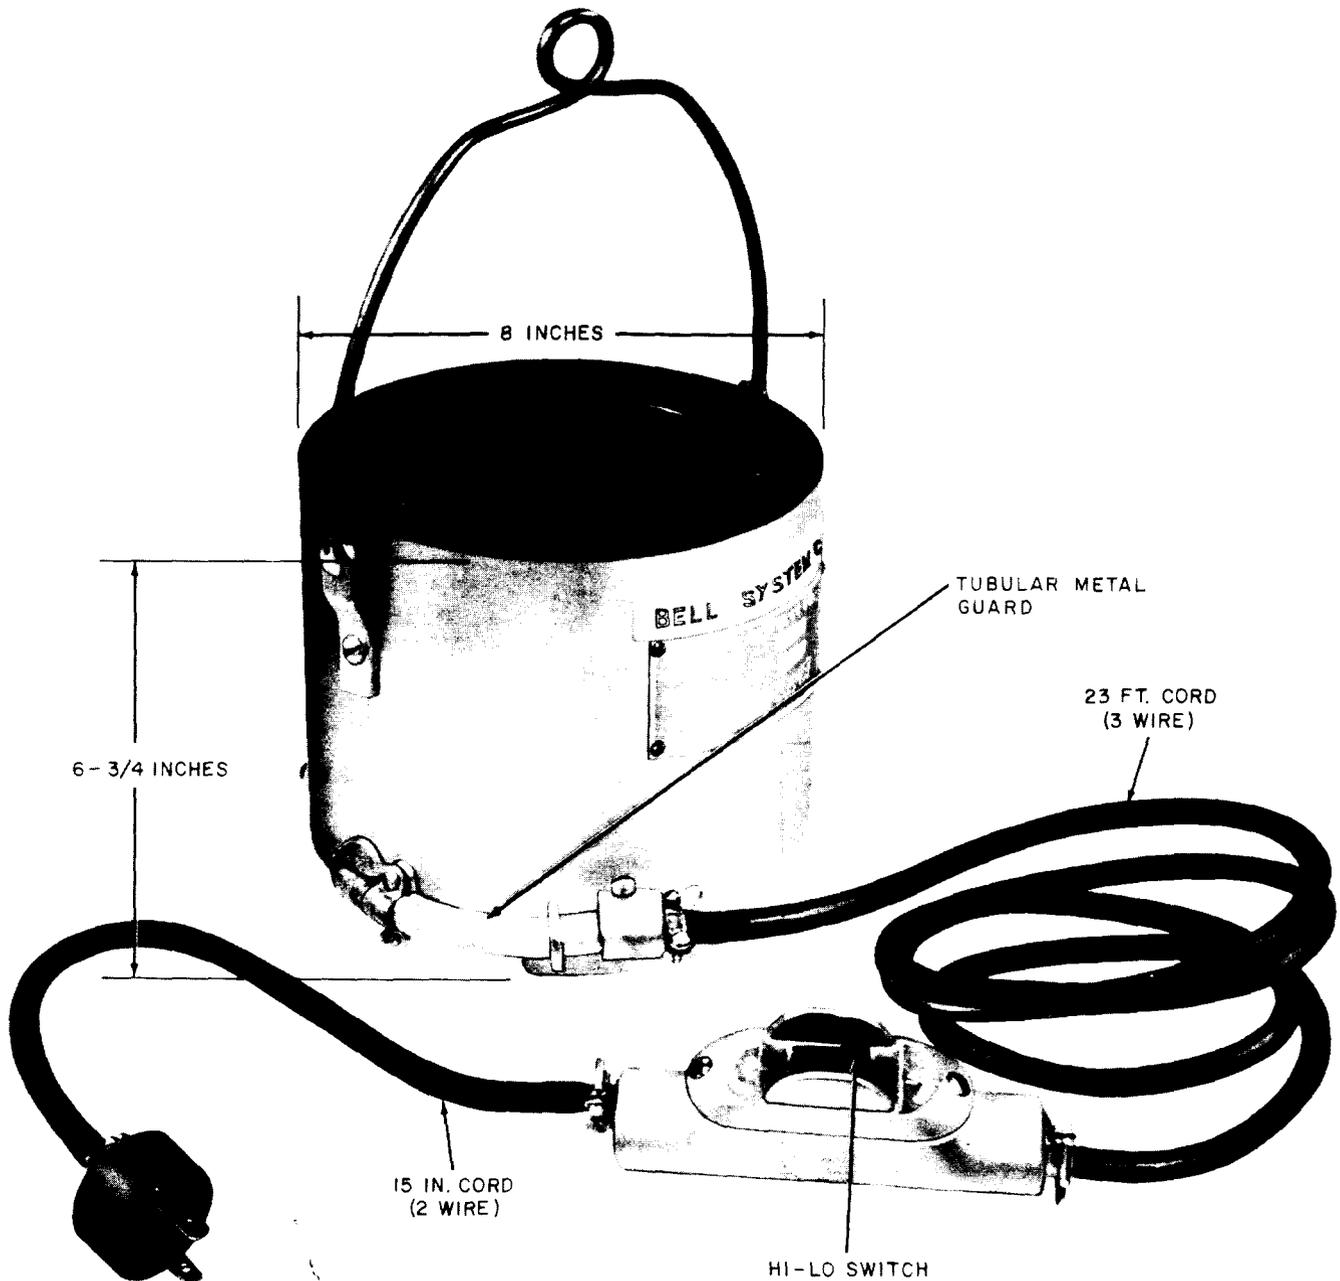

Fig. 2—Superseded C Solder Pot
5.01 The superseded C Solder Pot is illustrated in Fig. 2. It is a 20-pound capacity electric